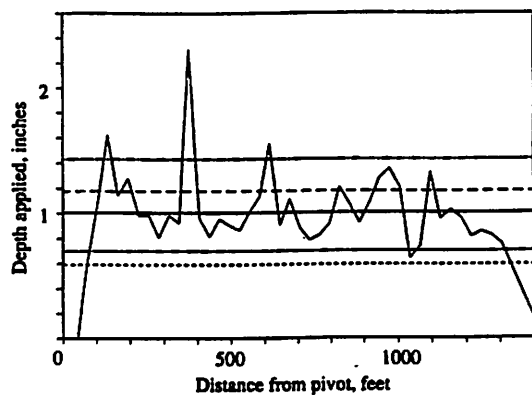
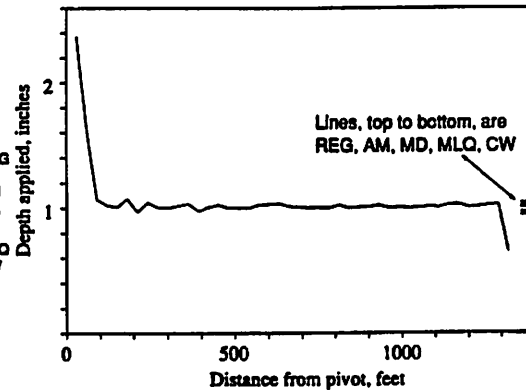

Figure 1. "Good" uniformity (CU=81.6%, 1" average application).
Figure 2. Excellent uniformity (CU=96.8%, 1" average application).
Figure 1 shows the depth of water applied along a typical center pivot evaluated by the SCS in Colorado (SCS26). You can see that every spot along that pipe does not get the same amount of water! The coefficient of uniformity (CU) measures how much the water application varies, and for many years designers have considered that 80 to 85% is sufficient. Of 60 pivots measured by the SCS in Colorado in 1983, the average CU was 81.8%. We can see that there are almost unlimited "depths" of water applied, depending on where you look. We will evaluate several ways of determining "depth" and what they mean in terms of the number of irrigations and the costs associated with irrigation. The most obvious depth, called the "mean depth" (MD)
is calculated by multiplying the pump discharge by the irrigation time then dividing by the area covered. It is obvious from Figure 1 that some areas receive more than the mean depth, some less. In fact, from a mathematical viewpoint, there is not one square foot that gets exactly the mean depth. About half the field is overirrigated, half is underirrigated.
We know it is possible to achieve higher uniformity than shown in Figure 1. Figure 2 is a high pressure, impact head system that has had its nozzle package tuned to the point that CU is better than 96%, a value that can be achieved with impact heads, spray heads, or in-canopy hardware (such as LEPA). One thing obvious from Figure 2 is that it really doesn't make much difference how you measure the depth if uniformity is high. The mean depth (MD) is about the same as the MLQ, the minimum or the maximum.